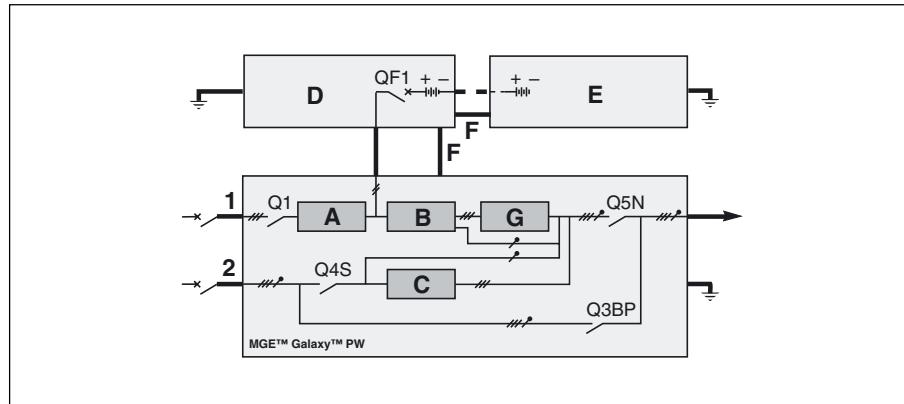

Fig. 8
The single-wire diagrams for typical UPS installations are given in figures 8 to 11. The heavy lines represent the cables that must be connected (see the table in the previous chapter for the required cross-sectional areas of the cables).
► see figure 8 for a single-UPS
Key for figures 8 and 9: